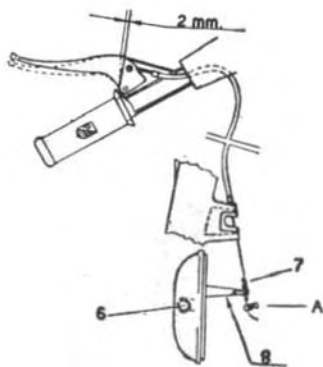

Fig. 20 - Clutch control adjustment.
a) - Remove the rubber sheath from the breather on the clutch cover (Fig. 20, No. 6).
b) - If necessary, operate the clutch control adjuster screw (Fig. 20, No. 7), on engine bracket. The cable is to be tensioned or loosened, as the case may be, so that the control lever on handlebars (Fig. 20)
makes a move of 2 mm. (.078") before the lever (Fig. 20, No. 8) on the engine starts operating. Wrong play in the control may cause the clutch plates burning out even in normal running conditions.
- Tension the clutch control cable and lock it by means of terminal screw « A » (see Fig. 20).
- d) - Remove the rubber sheath from the breather on the clutch cover (Fig. 20, No. 6). When required, the adjustment of the clutch control is achieved operating on adjuster screw (Fig. 20, No. 7). The cable is to be tensioned or loosened, as the case may be, so that the clutch control lever, on the handlebars, makes a move of 2 mm. (.078") before the lever (8), on the engine, starts operating. Wrong play in the control may cause the clutch